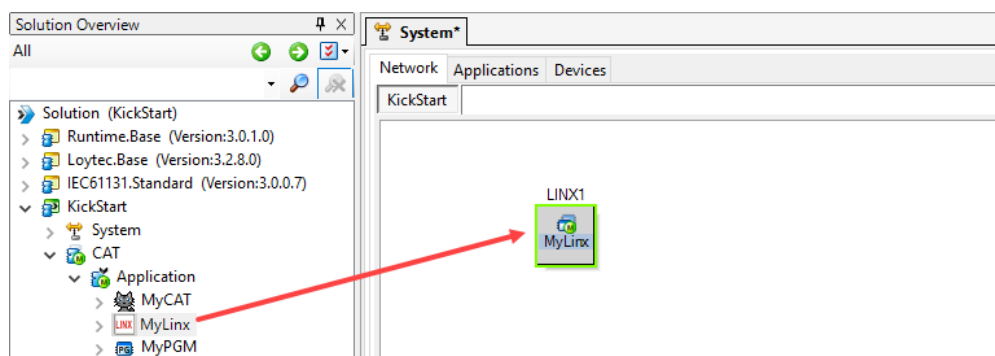

Figure 61: Create a device instance.
19. Finally create a device instance. Open the System  in the toolbar. Then select the **Network** tab. Drag the 'MyLinX' device from the solution tree onto the network tab and assign a name to the device instance as shown in Figure 61.